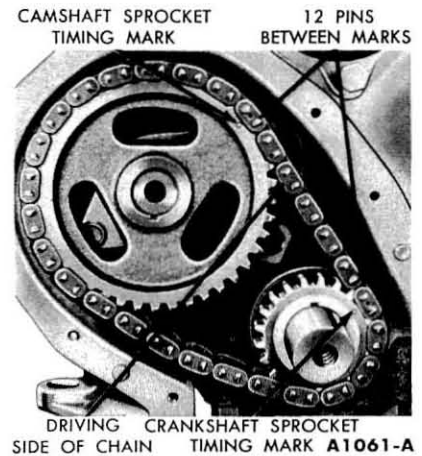

FIG. 34—Aligning Timing Marks
2. Position the sprockets and timing chain on the camshaft and crankshaft. Be sure the timing marks on the sprockets and chain are positioned as shown in Fig. 34. There are 12 timing chain link pins between the timing marks on the sprockets.